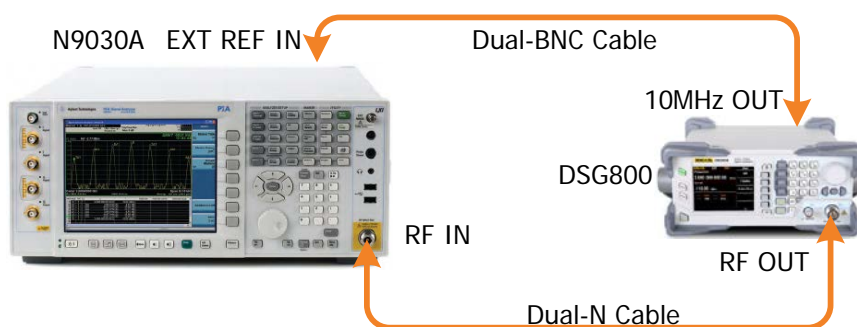

Figure 2-7 Pulse Modulation Test Connection Diagram
1. Synchronize DSG800 and the signal analyzer. Connect the RF output terminal of DSG800 with the RF input terminal of the signal analyzer as shown in Figure 2-7.